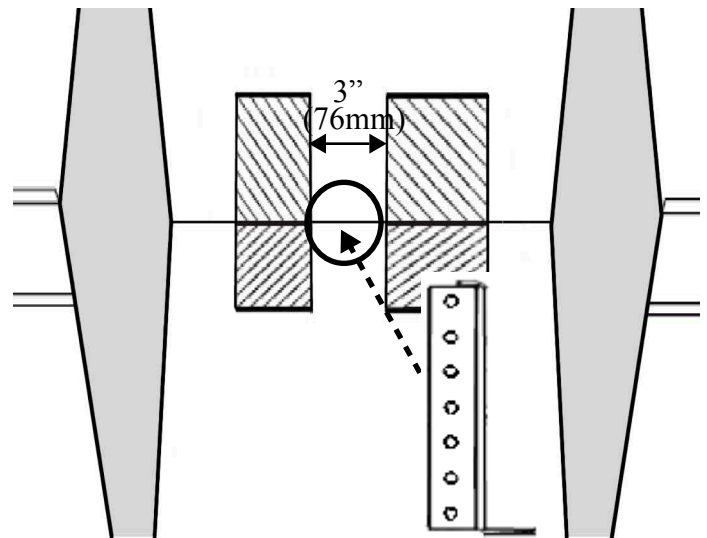
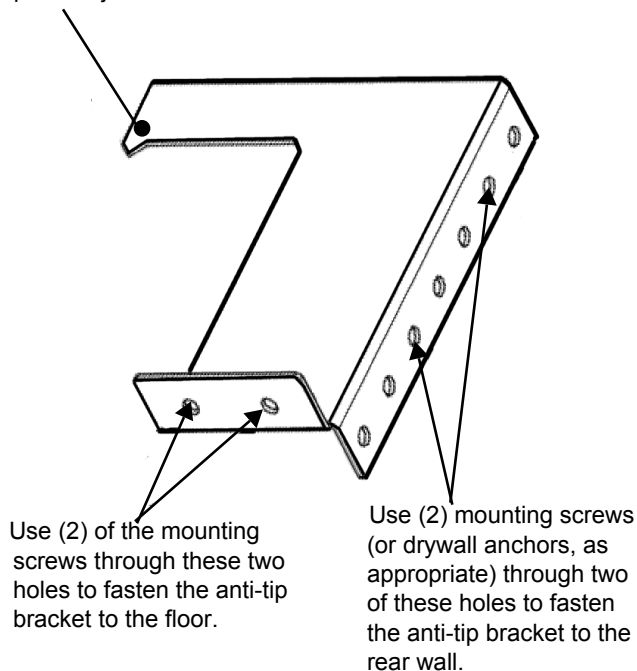

Figure 12: Anti-tip Bracket Mounting Location
Figure 13: Anti-tip Bracket
- In all cases, at least (2) of the bracket mounting screws must firmly fasten the anti-tip bracket to the floor, and (2) of the mounting screws (or drywall anchors) must firmly fasten the anti-tip bracket to the rear wall (see *Figure 12* and *Figure 13*).
2. Place bracket on floor near the center of where the unit is to be finally located (shown in *Figure 12*).